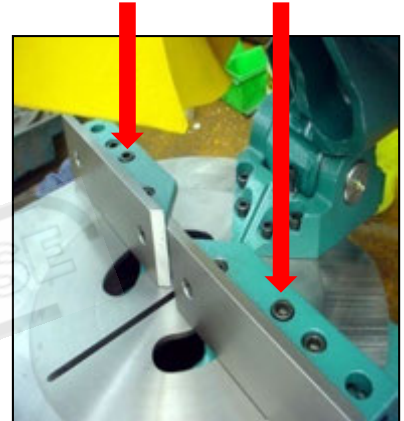

Figure 10. Angular Adjustment Bolts
- 2) To adjust the angle of the cutting surface, if necessary, loosen the 4 bolts, as shown in *Figure 10*. Fine-tune the angle required, then replace and re-tighten the 4 bolts.